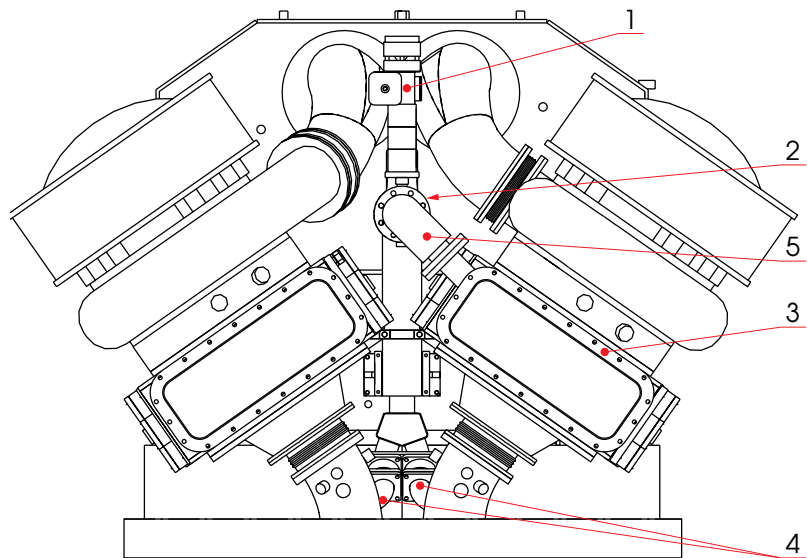

Fig 15C-1
The positioner pilot valve (11), see Fig 15C-4, maintains the actuator (1) with air pressure according to the control air pressure from the I/P converter.